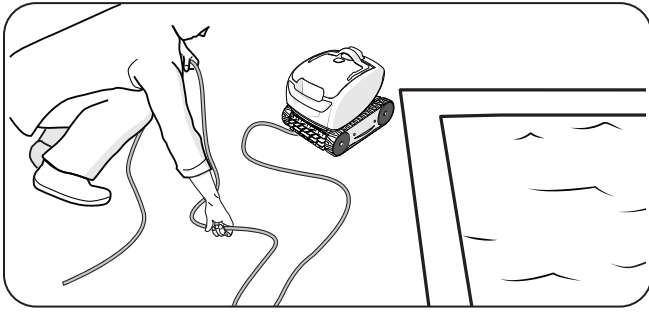

Figure 18. Lay Cable in the Sun
4. Remove the cleaner from the pool and untangle all kinks and coils in the floating cable. Start at the cleaner head. Lay the cable in the sun to loosen any tangling memory (Figure 18).